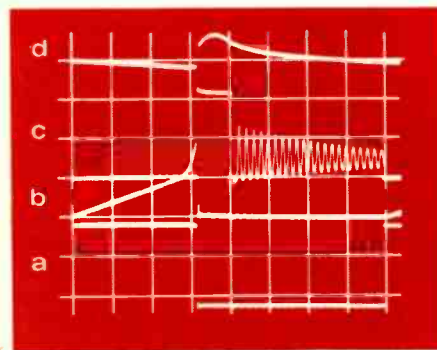
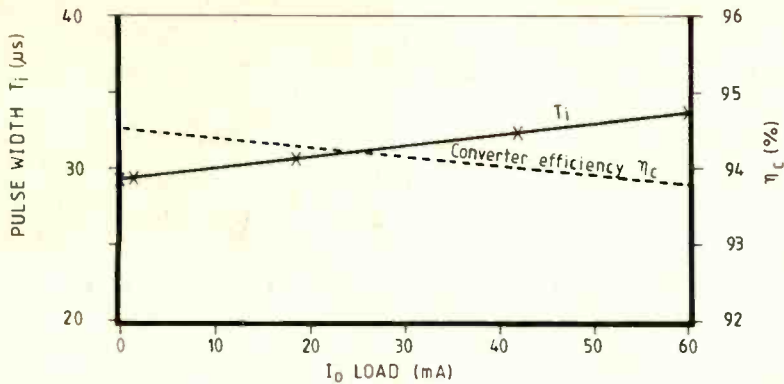

Fig. 3. Operation at 10.0 Vi, 44.1 Vo, 727 ohm load: η = 92% (a), (b), (c), (d) as for Fig. 2.
Fig. 6. Pulse width  $T_i$  and voltage converter efficiency  $\eta_c$  for 8.5  $V_i$  to 44  $V_o$  conversion - versus load current.
With Vi = 10 V, Fig. 3 illustrates the start of saturation where the current changes slope dramatically upwards after 29 μs, some 10% before the end of the input pulse. Fortunately the reduction in efficiency from 93% to 92% is acceptably small. However, if
\*\*\* Based on: Vi = 10V, Ldc = 244 μH and see Fig. 3 for Ts = 29 μs: η = 92%
much greater than 10% of the pulse is in saturation, the efficiency falls alarmingly! As shown in Table 1, equation (7), with Ts also substituted for Ti, then yields a maximum flux density for Fig. 3 of 436 m Tesla, agreeing with the manufacturer's value to within 12%.
In practice,  $Tr_1$  does not turn off instantly as  $V_o$  falls below  $V_{set}$  and the residual current slightly shortens the choke charge pulse  $T_1$ . The speed with which  $Tr_1$  turns off is directly related to the speed with which  $V_o$  falls between choke discharges, i.e.  $I_o$ . Thus it may be reasonable to expect pulse width to decrease linearly with decreasing  $I_o$  (see Fig.6 for measurements). Although this pulse width modulation causes the inconvenience of making pulse-width prediction more involved, it does have the considerable advantage of extending the dynamic range of the regulator. Rapid optimization of timing may be carried out by setting  $V_i$  to its minimum value, monitoring  $V_o$  at high setting off load, then applying the maximum  $I_o$  and varying  $R_1$  till the drop in  $V_o$  is acceptable. A check should be made at maximum  $V_i$  that the off load  $V_o$  is still sufficiently restrained and that the core is not then excessively saturated with maximum  $I_o$  (see again Fig.3). Table 2 shows the
measured range of  $V_o$  for both the 44 V and the 25 V settings. While regulation at the higher voltage is merely adequate for our purposes, that at the lower voltage is relatively much better because of the lower power required. Fig. 6 shows a line for pulse width  $T_i$  versus  $I_o$  for  $V_i = 8.5$  V and the 44 V setting, this line being linearly interpolated from measurements at the four points  $V_i = 7.5$  V and 10.0 V with  $I_o = 0$  and 60 mA. Agreement between the line and the points measured at  $V_i = 8.5$  V is within 0.2  $\mu$ s.
where  $R_w$  is the wiring and connection resistance which is not negligible unless great care is taken with the circuit layout. In a production circuit,  $R_{test}$  would be omitted. As  $P_{Roff}$  is much smaller than  $P_{Ron}$ , a rough estimate for  $R_{soff}$  is sufficient (see again Table 1). Using equations (22) to (25) and the  $T_i$  values indicated by the solid line in Fig. 6,  $\eta_c$  may now be obtained for 44 V output with 8.5 V input as shown by the dotted line in that figure. For instance, the off load  $\eta_c$  estimate is 94.5% and that at full load 93.8%.